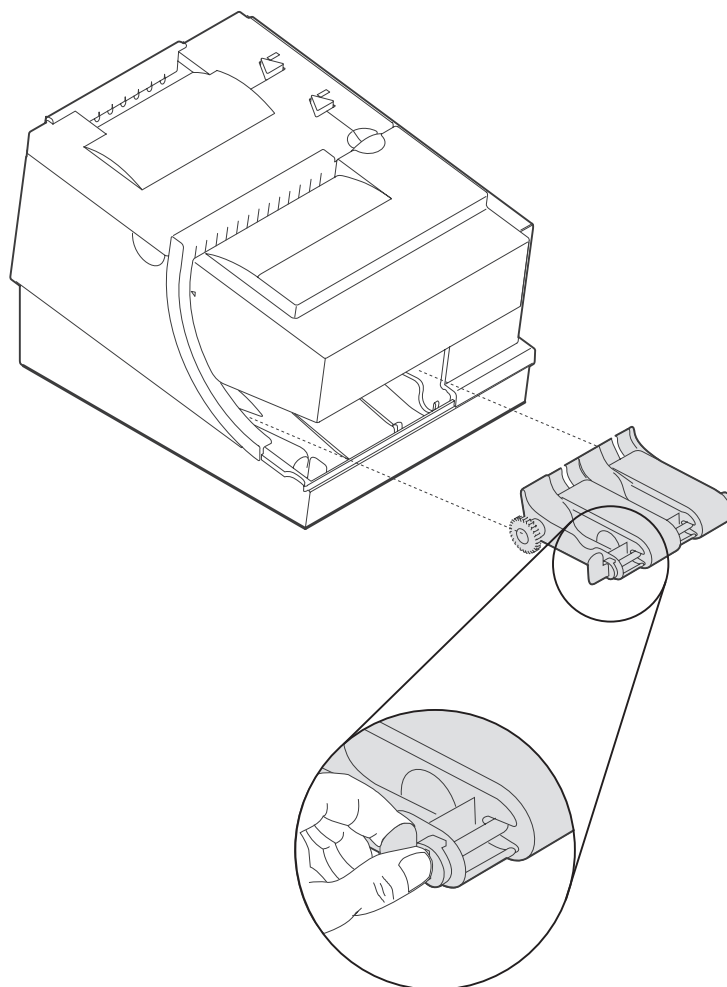

Figure 29. Removing the Check Flipper Cartridge (except Model T18)
3. Lift up the tab on the left side of the check flipper cartridge and remove the assembly from the printer. (See Figure 29 on page 56.)